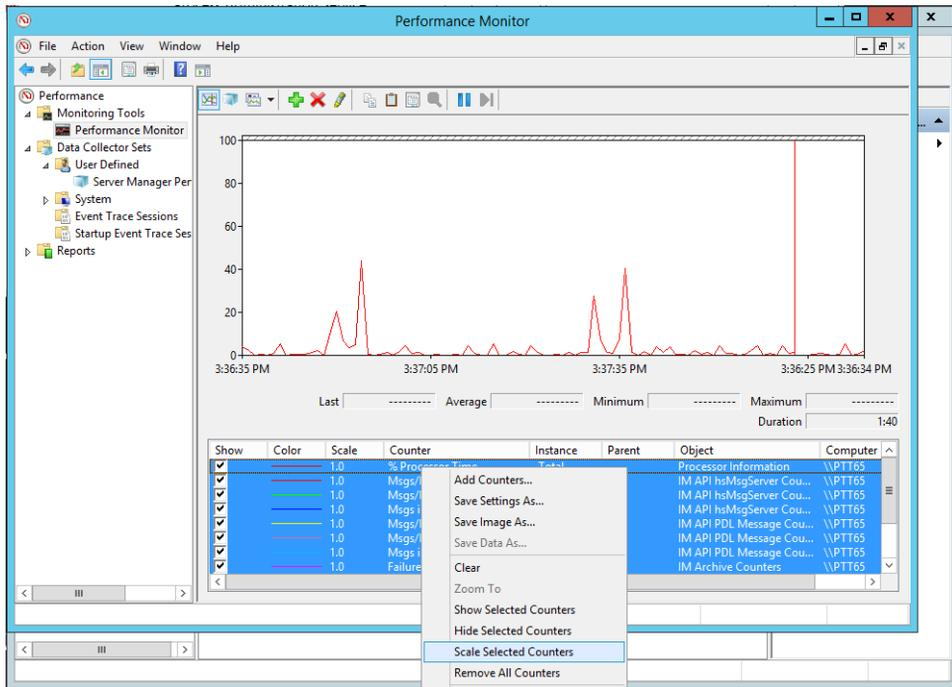

Figure 82. Scaling all the counters
4. Select all the counters and scale them as shown in Figure 82.